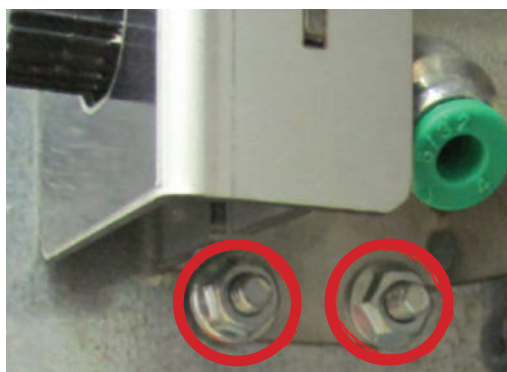
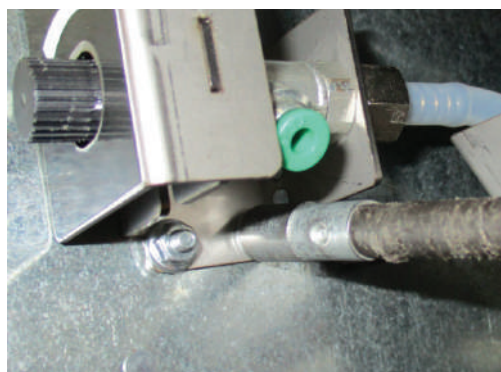

Fig.4.11
Fig.4.12
1. Remove the tap from the vending machine fastener by unscrewing two nuts (fig. 4.11 and fig. 4.12).